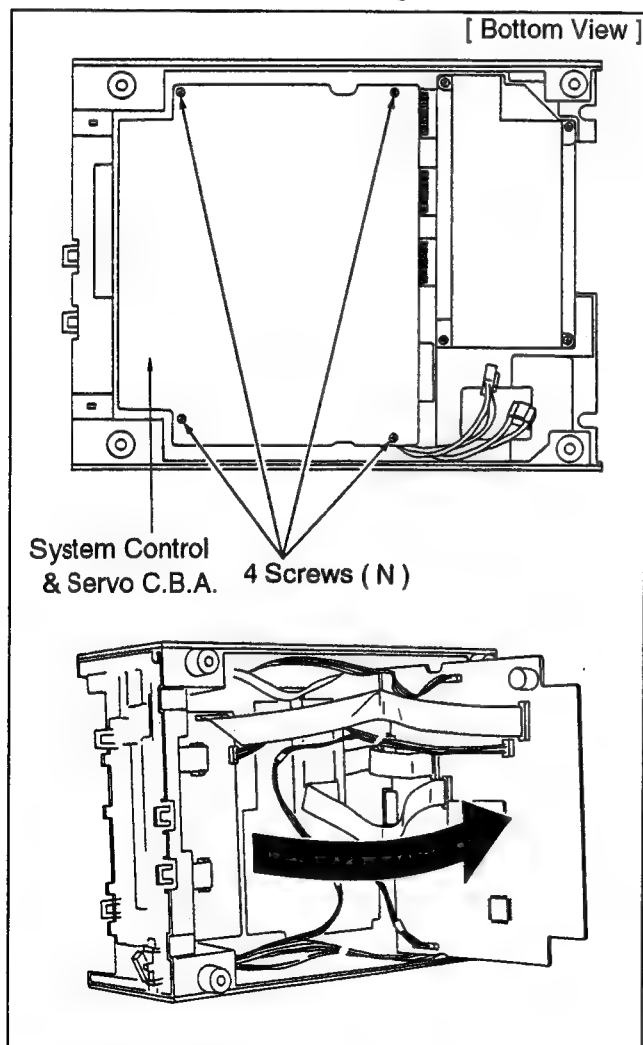

Figure D14
1. Unscrew the 4 screws (N) on the System Control & Servo C.B.A. and carefully open the System Control & Servo C.B.A. as shown in Figure D14.